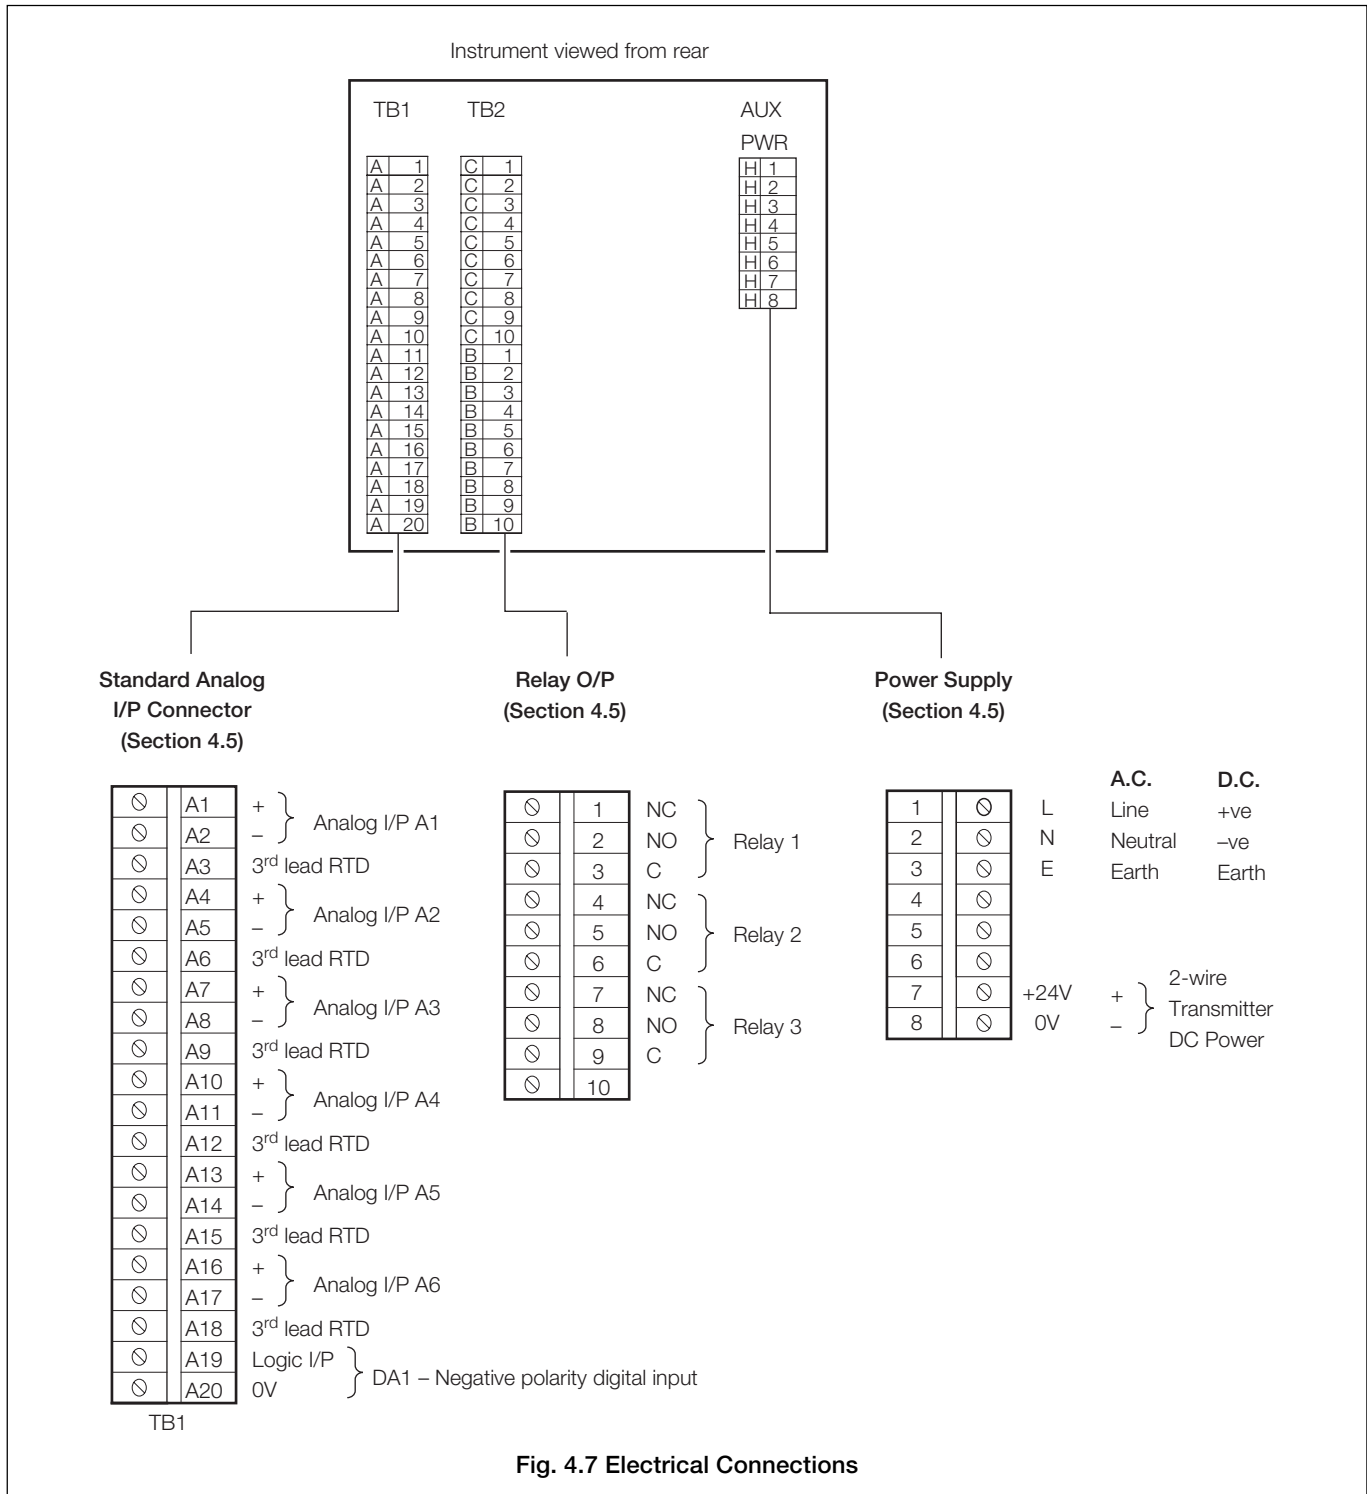

Fig. 4.7 Electrical Connections
4.4 Electrical Connections – Fig. 4.7